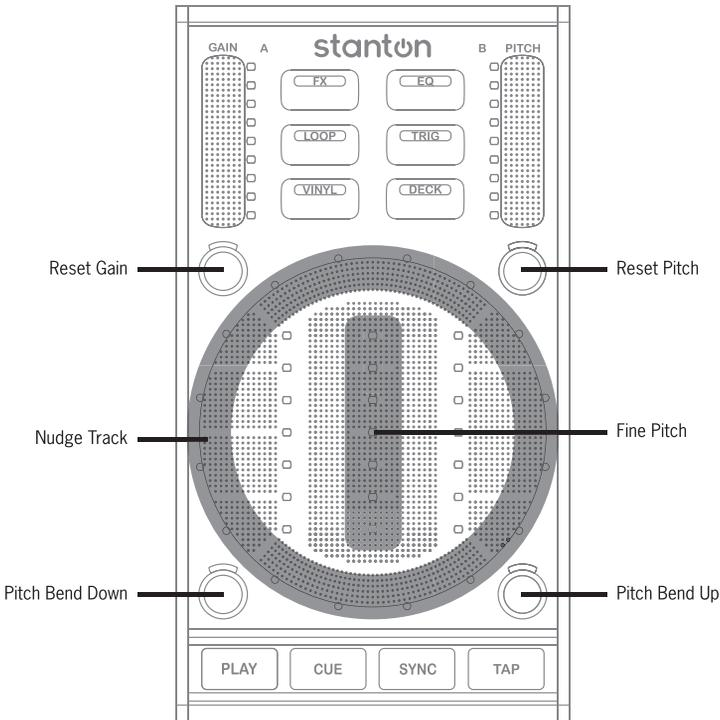

Figure 6.17
6.3.1.2.2 Vinyl Mode 2 (Mix Mode) (Figure 6.17)